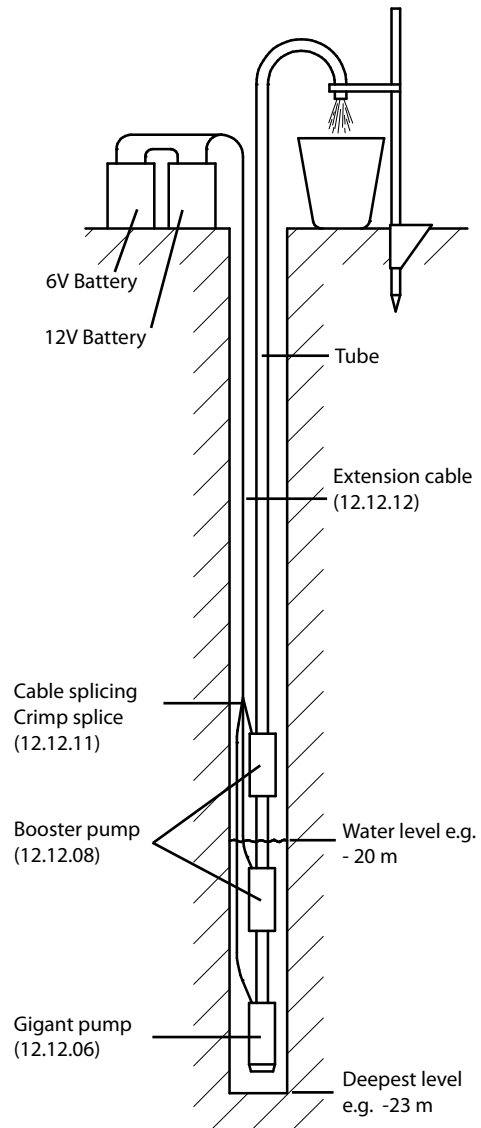

Figure 1
- ❑ Do not place the pumps on a distance of more than 1 meter of each other (see figure 1).